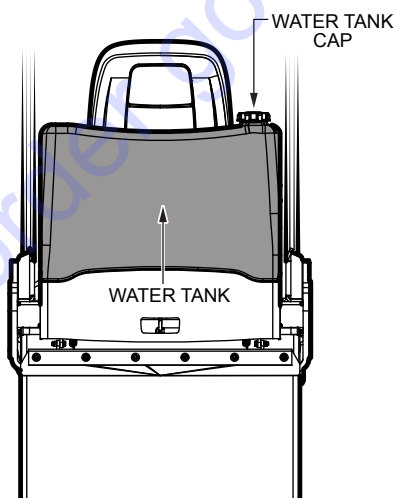

Figure 15. Water Tank
1. Visually inspect the water level in the water tank. When the water level is low, water needs to be added to the water tank (Figure 15). Total tank capacity is 34 gallons (130 liters.)